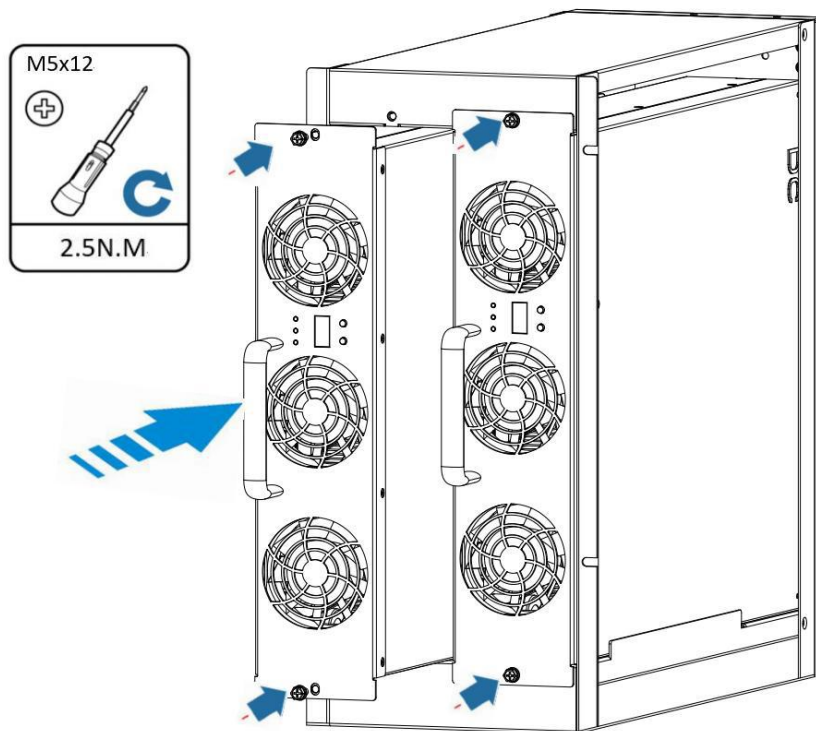
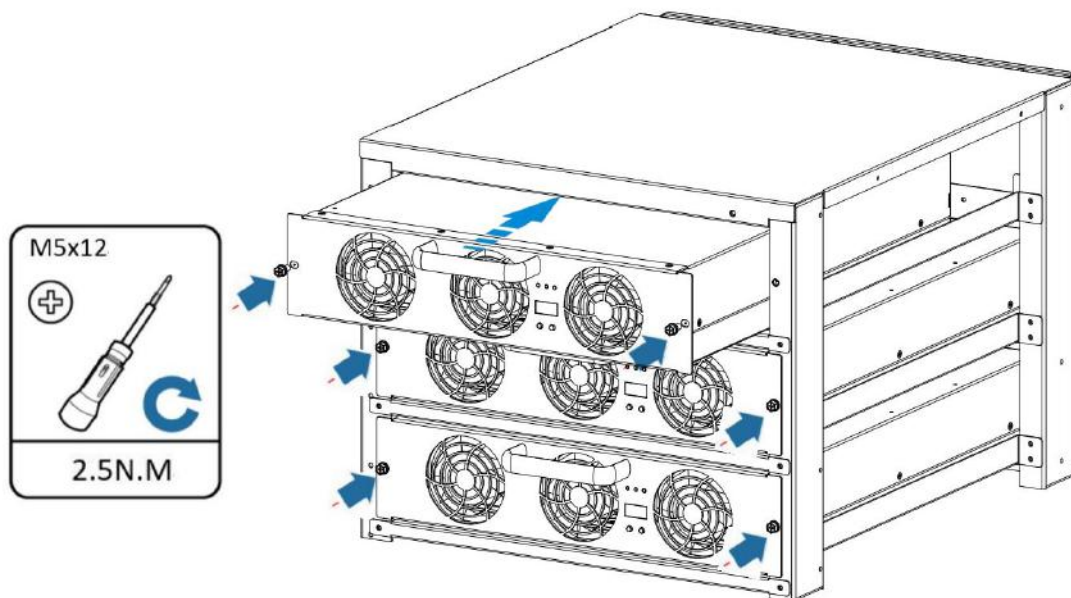

Figure 3-6 Module Installation diagram
Figure 3-7 Module Installation diagram
- Following the above steps, according to the slot position of the charger, install the charging module into the cabinet in sequence from left to right or from top to bottom, as shown in Figure 3-6 and Figure 3-7;